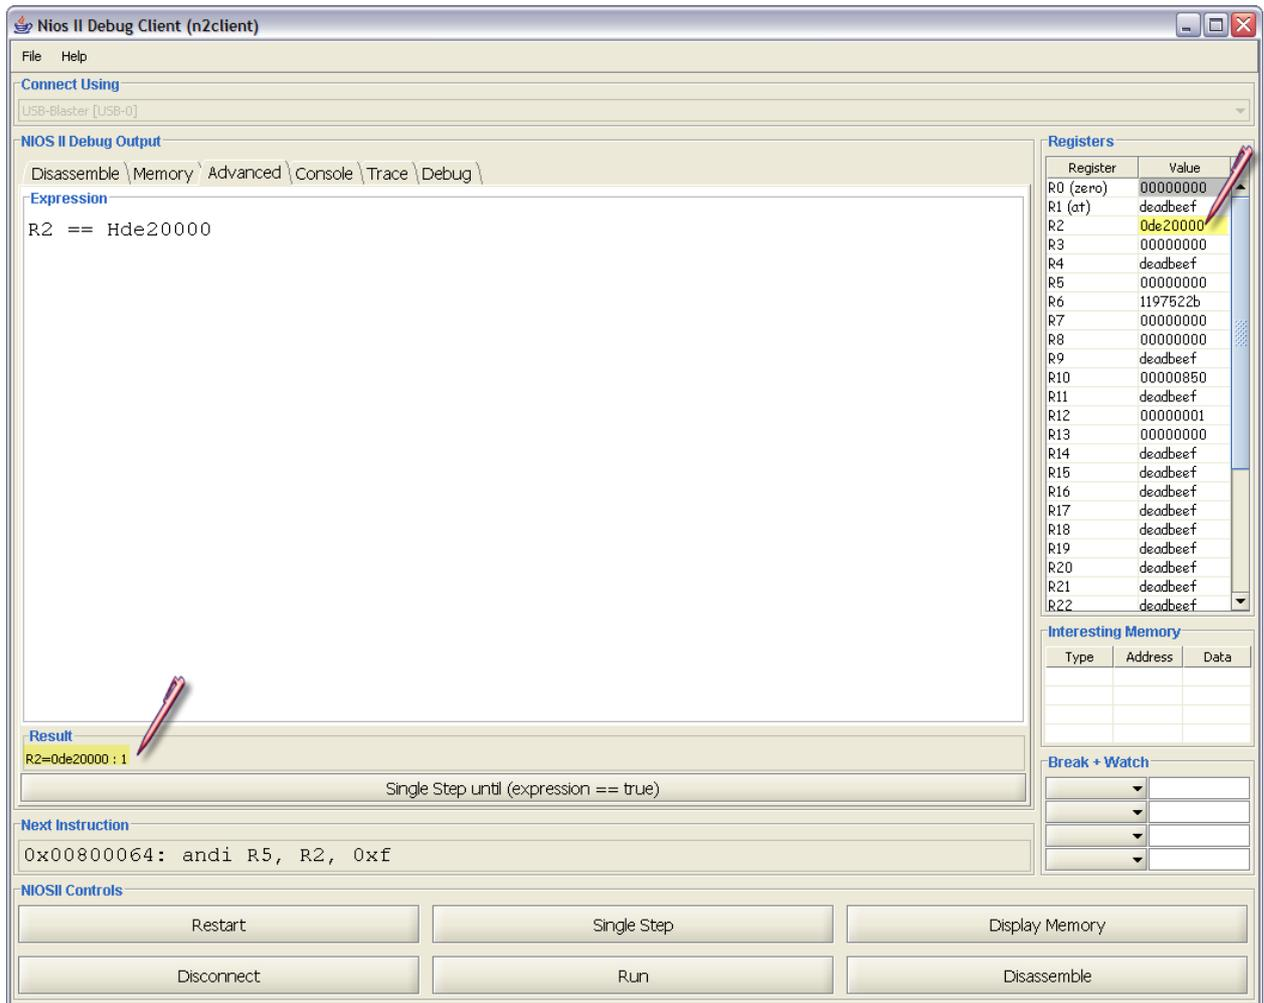

Figure 21: Single Step Until Condition Met.
- Once the condition has been met, the Nios II Debug Client will stop executing single instructions and return control to the user as shown in Figure 21. Notice that the value of **R2** is as expected in the **Registers** table.